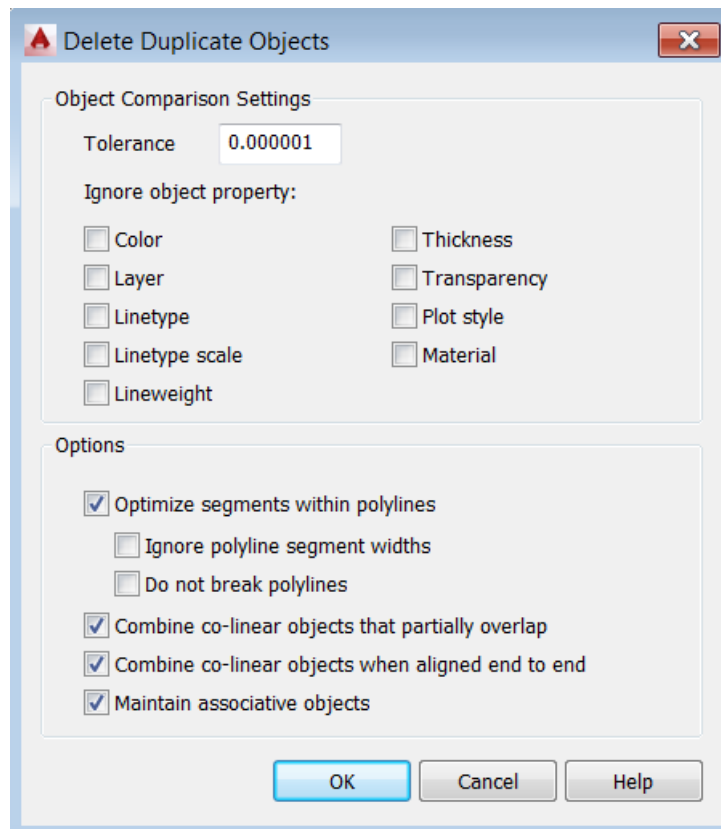

Figure 8: "Delete Duplicate Objects" tool presentation
-  Delete Duplicate Objects according to criteria mentioned on **Figure 8: "Delete Duplicate Objects" tool presentation**